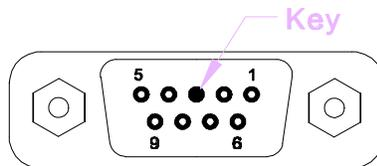

Figure 6-6 DigiTOL® Load Cell Connector
- The J1 load cell connector has a key plug installed in pin 3. Refer to Figure 6-6 for key pin location. This key is installed to insure that an analog scale base cannot be plugged into this connector. This key pin **MUST NOT** be removed. The mating DE-9-P connector, PN 117599 00B, included with the 8530 has pin 3 removed. If a different connector is used it will be necessary to remove pin 3 of the mating connector. To accomplish this, grab as much of the pin as possible with a pair of needle nose pliers and bend the pin back and forth until it breaks off. Verify that all adjacent pins are straight after you finish.